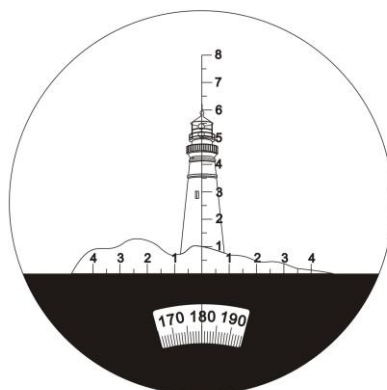

Fig. 6
4.2.3.A. Vertical View Angle measurement is similar to measuring the Horizontal View Angle. When the Vertical View Angle measurement is small, aim the cross center of reticle at lower part of the object, read the scale value at the top of the object. As shown in fig 6, the angle included between the upper and lower parts of the target (lighthouse) is 6 decade mils (60mils).